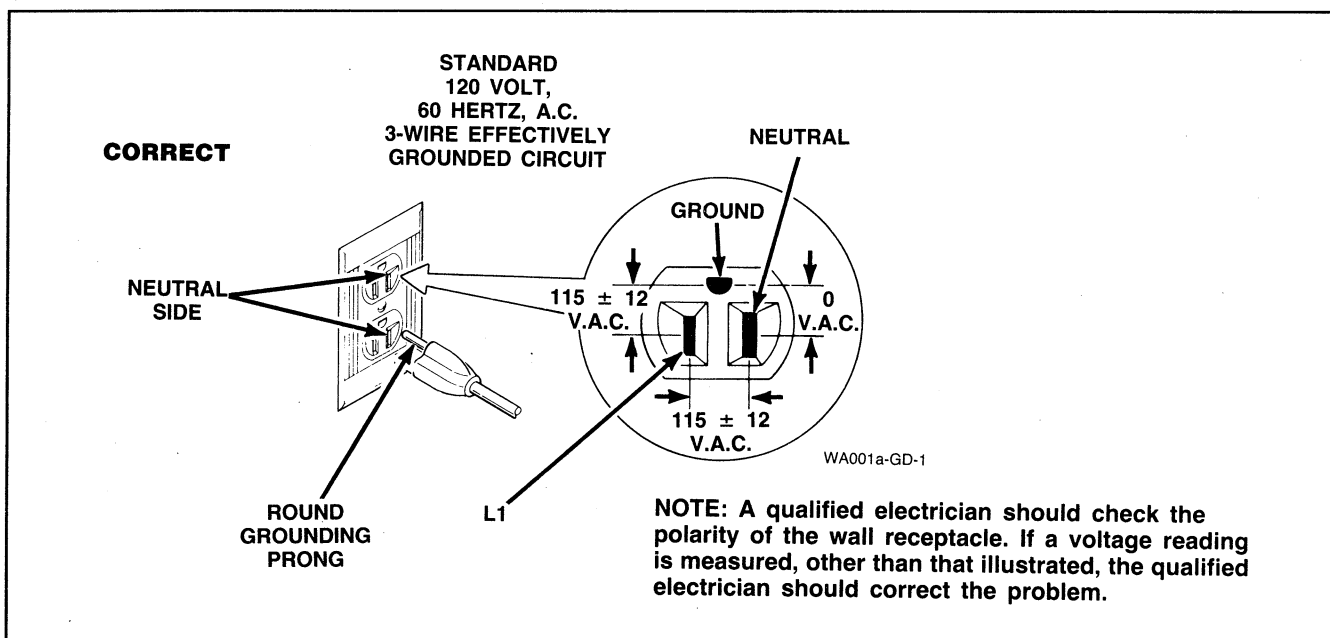

Figure 50
- The three-prong grounding plug on the power cord should be plugged directly into a polarized three-slot effectively grounded receptacle rated 110/120 Volts AC (alternating current), *Figure 50*.